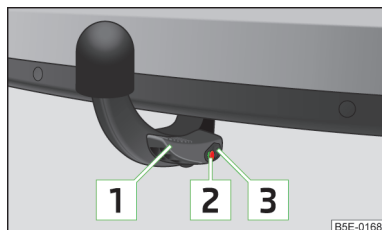

Fig. 155
- ✓ Lever **1** is up as far as it goes » Fig. 155.